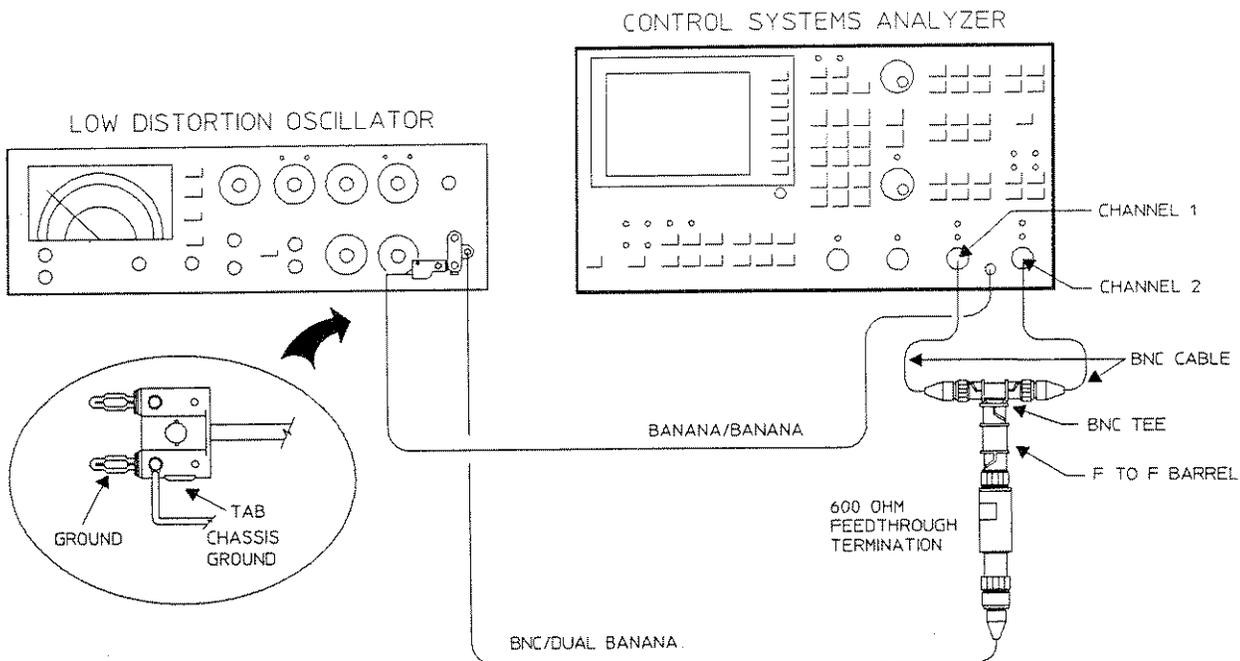

Figure 4-17. Harmonic Distortion Test One Setup
1. Connect the test instruments as shown in Figure 4-17.